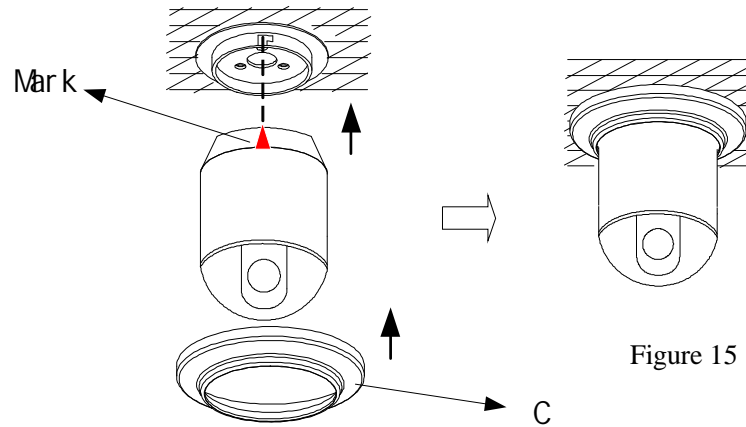

Figure 14
6.3) Aiming the “MARK” on the ball at the notch on the pedestal, push the ball upward to the end and rotate clockwise until it is clicked (as shown on Figure 14).
6.4) Put the decoration ring near the ceiling and rotate it clockwise until it is tightened (Figure 14).